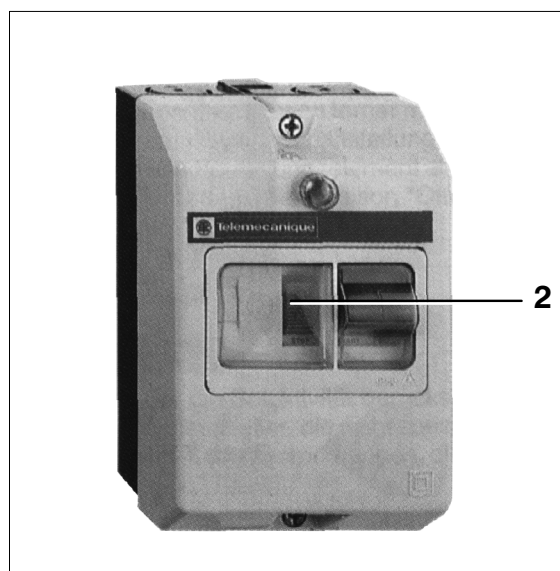

Fig. 26 Motor protection switch
- **Three-phase current:** the motor is switched off either manually by pressing the stop button (2, Fig. 26) or automatically by a thermic release.